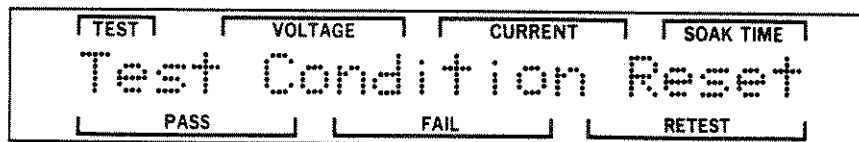

Figure 7-59. Test Conditions Reset Screen
STEP 9. Press the RIGHT pushbutton to access the individual Reset screens. Press the UP or DOWN pushbutton until the Test Conditions Reset screen is displayed. Figure 7-59 is an illustration of this screen.